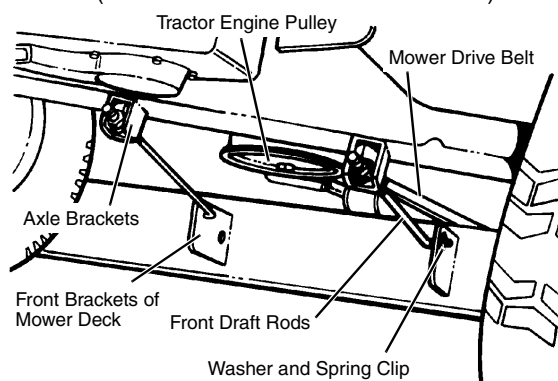

FIG. 8
- Remove the front draft rod assemblies from parts bag and insert through holes in axle brackets on the bottom of front axle. (See FIG. 8)